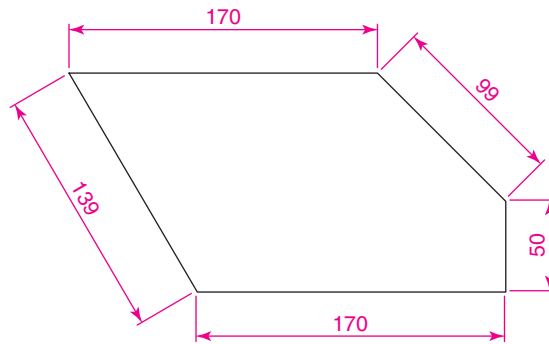

Fig. 6.5 Second example – **Aligned** dimension
Second example – Aligned Dimension (Fig. 6.5)
1. Construct the outline Fig. 6.5 using the **Line** tool.